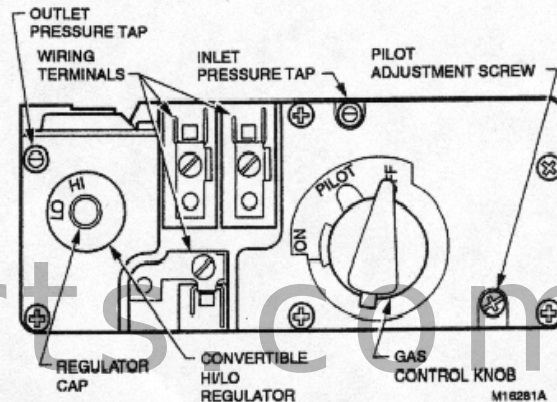

Fig. 1. Top view of a convertible high/low combination gas control (VS8520E shown here).
2. Remove regulator cap and conversion screw. Refer to figs. 1 and 2.